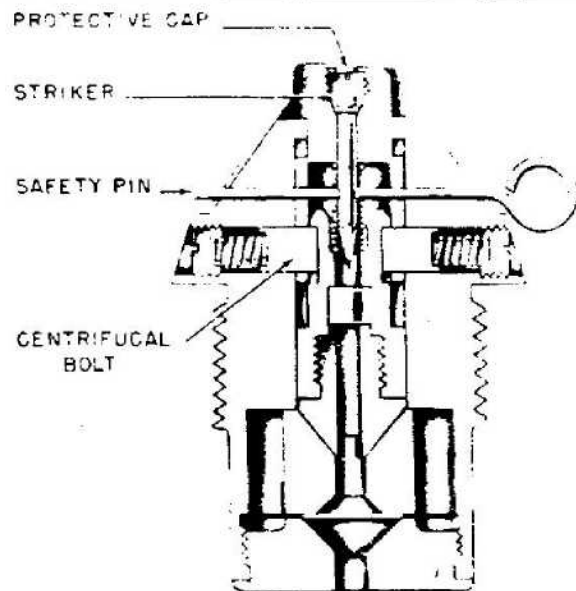

Figure 592—Wgr. Z. 50
**DESCRIPTION:** This fuze consists of an aluminum body containing a floating striker, floating detonator carrier, and an inertia weight. The striker and detonator carrier are separated by a light spring. The striker extends through the forward end of the fuze body, and in the unarmed position, both striker and detonator carrier are held in place by a pair of centrifugal detents. A shipping safety pin passes through the fuze body, striker, and a protective cap. (See fig. 592.)